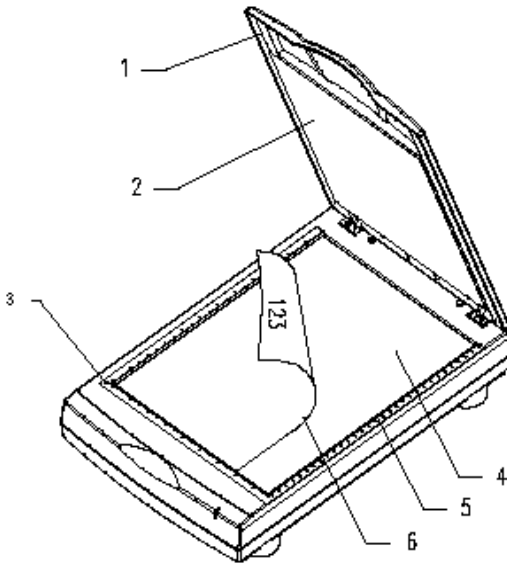

Figure 3-2 Document Placement
5. Place the image to be scanned face down on the glass (Fig. 3-2).
As shown in Figure 3-2, place the document on the glass with the text facing away from you.